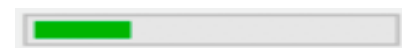

Figure 80 - Programming Progress Bar
- A progress meter is available in the lower-right corner of Interlock Builder (Figure 80 - Programming Progress Bar).